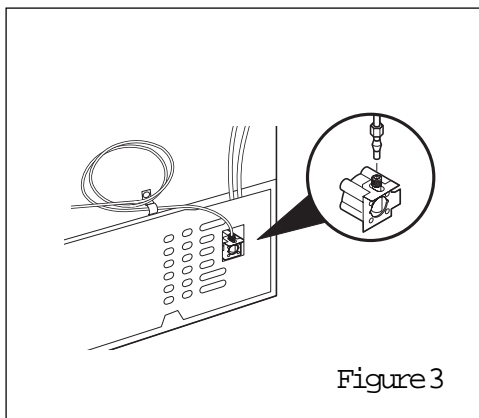

Figure 3
4. Secure copper tubing with STEEL CLAMP and screw to rear panel at location show (Figure 3).
5. Route water supply into coil as shown (Figure 3).
6. Turn on water supply and check all connections and leaks (Figure 3).
7. Plug refrigerator cord into wall outlet (Figure 3).